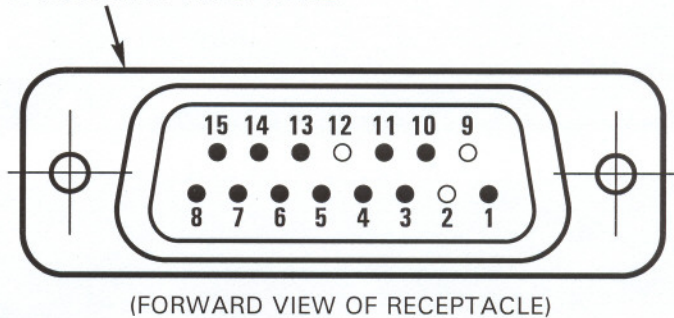

FIGURE 2 FILTER CONNECTION SCHEMATIC
5. Refer to Figure 2. On wires cut in preceding step, Attach two 2-inch lengths of B274-20 wire to existing wires -200 (or -703) and -201 (or -704) using B261-2 splices. Cover splices with B158-6 heat shrink. As required, strip wire ends then crimp on sockets provided with B269-8 receptacle using D-subminiature crimping tool. Install sockets with attached wires in noted locations on B269-8 receptacle.